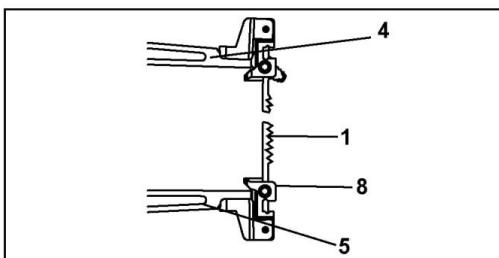

Fig. 14
2. Remove the blade (1) from the upper (4) and lower (5)blade holder by pulling forward to release, and lift theblade through the access hole. (Fig.14)
3. Tilt the table to a 45°angle and lock the bevel lock knob toview lower blade holder (8). (Fig.14)